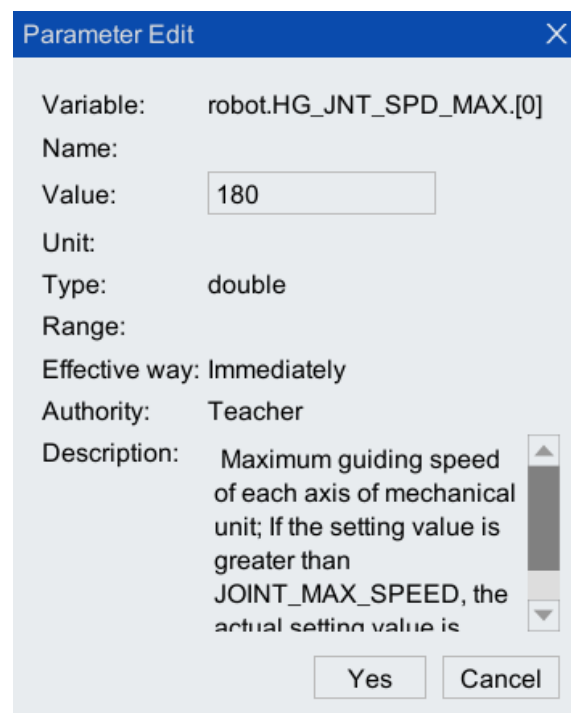

Figure 5-17 Maximum allowable angular velocity parameter setting interface for dragging
Step4. In the pop-up [Parameter Edit] interface (as shown in Figure 5-17), configure the [Value]. Parameter description is shown in Table 5-5.